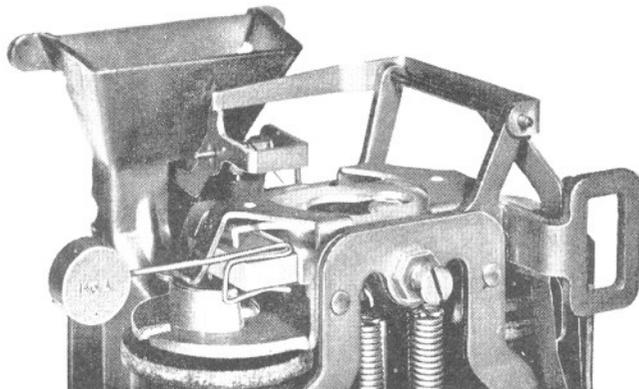

FIG. 5 — BIAS MARGIN TEST
**5.03** The relay shall operate in the collect and in the refund direction against the torque of a 146A gauge attached to the armature (see Fig. 5) with appropriate coin battery applied. Coin trigger shall restore. Proceed with test as follows: